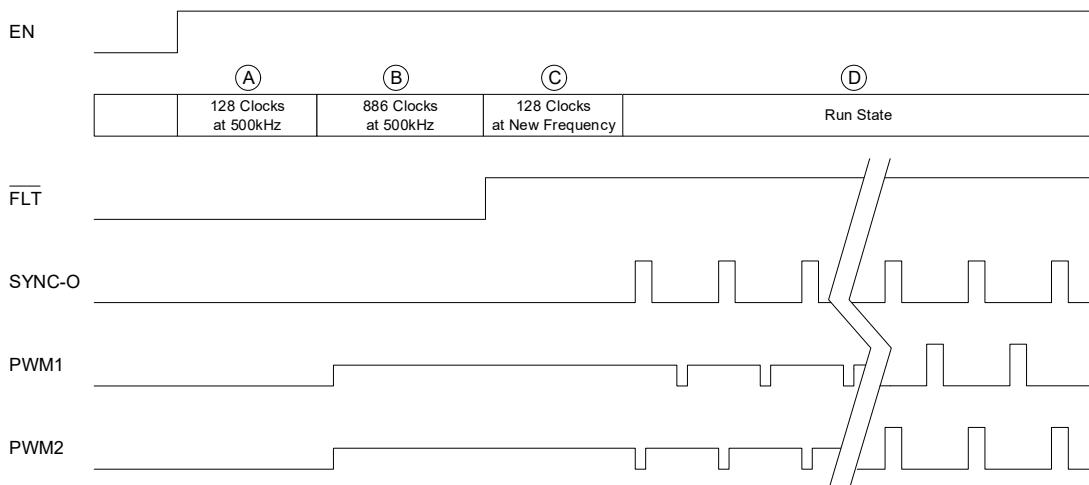
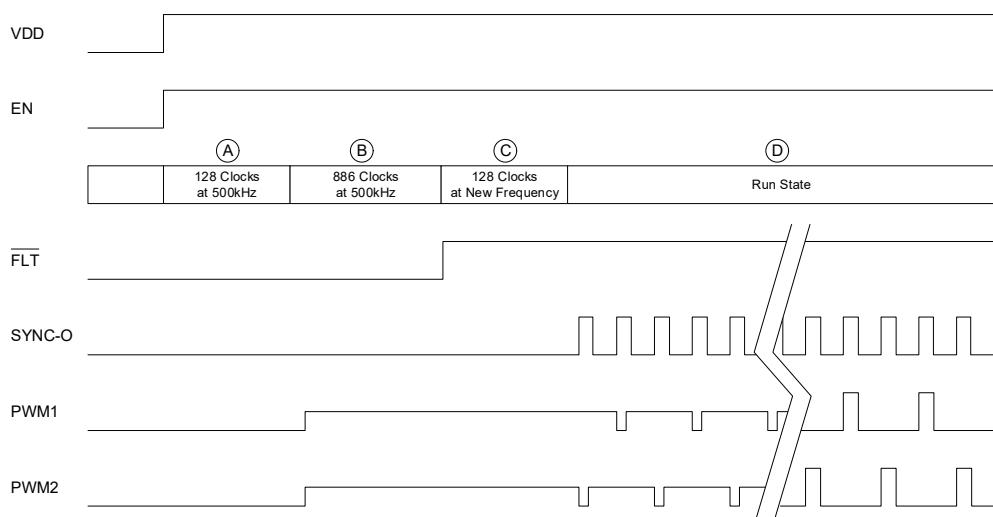

Figure 50. Start-Up Timing Diagram ($R_{SYNC-O} = OPEN$)
Figure 51. Start-Up Timing Diagram ($R_{SYNC-O} = 100k\Omega$)
When the ISL73847SEH first powers up, it goes through several states before boot refresh and soft-start. After VDD has crossed the rising UVLO threshold, the oscillator waits for 128 clock cycles at 500kHz before allowing the digital core to enter its configuration state. The configuration state lasts 886 clock cycles at 500 kHz. When the digital core completes its configuration, it signals the oscillator to switch to the frequency set by the FS pin or SYNC-I. After an additional 128 clock cycles at the new frequency, boot refresh pulses commence, followed by soft-start. Figure 50 and Figure 51 illustrate the start-up sequence.
During states A and C in Figure 50 and Figure 51, the oscillator blanks the clock signal to the digital core. Therefore, the oscillator has time to stabilize its frequency before entering the configuration state (B) or run state (D).